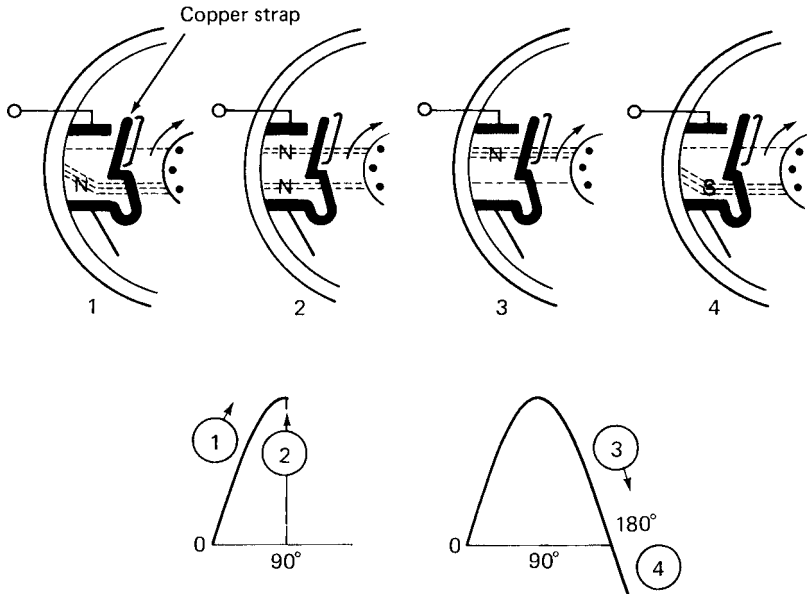

Figure 12-6 Shaded poles used in shaded-pole ac motors.
Portions of the pole piece surfaces are surrounded by a copper strap called a shading coil. The strap causes the field to move back and forth across the face of the pole piece. In Fig. 12-6, a numbered sequence and points on the magnetization curve are shown. As the alternating stator field starts increasing from zero (1), the lines of force expand across the face of the pole piece and cut through the strap. A voltage is induced in the strap. The current that results generates a field that opposes the cutting action (and decreases the strength) of the main field. This action causes certain actions: As the field increases from zero to a maximum of  $90^\circ$ , a large portion of the magnetic lines of force is concentrated in the unshaded portion of the pole (1). At  $90^\circ$  the field reaches its maximum value. Since the lines of force have stopped expanding, no emf is induced in the strap, and no opposite